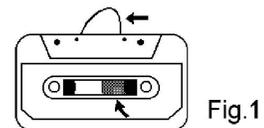
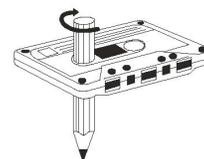

Fig. 1
Fig. 2
- Check that there are no loose layers of tape visible through the cassette center window (see Fig. 1). Take up any loose layers, using a pencil or hexagonal barrelled ballpoint pen, before inserting the cassette into the machine (see Fig.2)
- If the cassette feels tight while performing operation shown (see Fig.2), the tape may be jamming due to ridges formed in the winding of the tape (visible through the center window). These may be removed, in most cases, by fast winding of the cassette from one end to the other and back again.